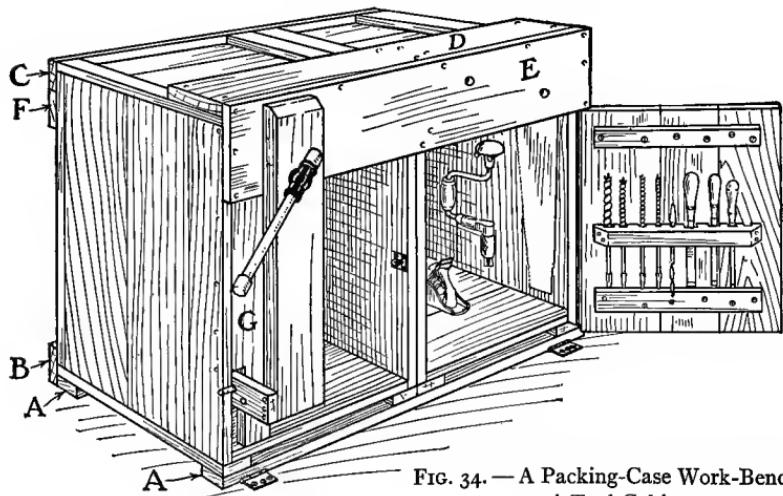
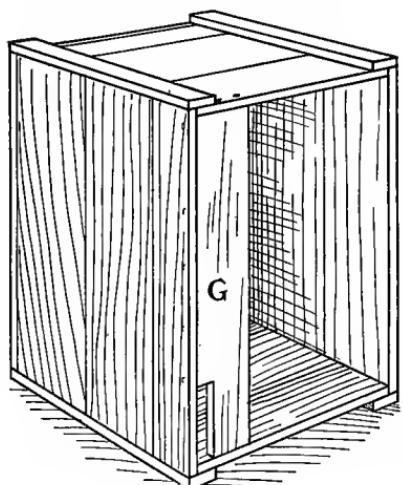

FIG. 34.—A Packing-Case Work-Bench and Tool-Cabinet.
FIG. 36.—The Board *G* Forms a Pocket for the Vise Sliding-Strip.
A Packing-Case Work-Bench and Tool-Cabinet like the one illustrated in Fig. 34 is very easy to build, and, as it requires only two boxes which can be purchased for 15 or 20 cents apiece, a 50-cent bench-screw, and several lengths
The packing-cases should be about 20 by 20 by 30 inches in size for a bench similar to the one shown in Fig. 34. You can probably get boxes of this size from a near-by dry-goods store. The boxes should be of equal length. It will not matter if there is a difference in the widths, and if one is deeper than the other it can be allowed to project at the rear.
The first thing to do, after getting the boxes, is to reinforce them wherever boards show signs of loosening, by driving in additional nails. Then place them on end, as shown in Fig. 36, and connect them side by side with strips *A* upon the bottom (Figs. 34 and 35), with strips *B* and *C* across the back, with the board *D* across the top, even with the front, and with the apron board *E* across the front. Strips *A*, *B*, and *C* need not be more than 3 or 4 inches wide. Board *D* should be 10 or 12 inches wide, as it forms the main working surface of the bench, and board *E* should be of the same width, as it forms the surface against which work is held when placed in the vise.
**The Bench-Vise** is constructed at the left end of the bench. Cut the vertical board *G* to fit between the ends of the left-hand packing-case (Fig. 36), and, before nailing it in place, saw a piece  $1\frac{1}{2}$  inches wide and
The holes shown in the apron board *E* (Fig. 34) are bored for an adjustable peg to support the end of long pieces of work.
Figures 34 and 35 show how to
Figure 34 shows